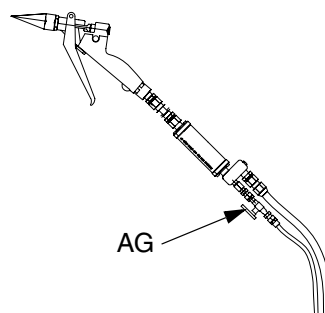
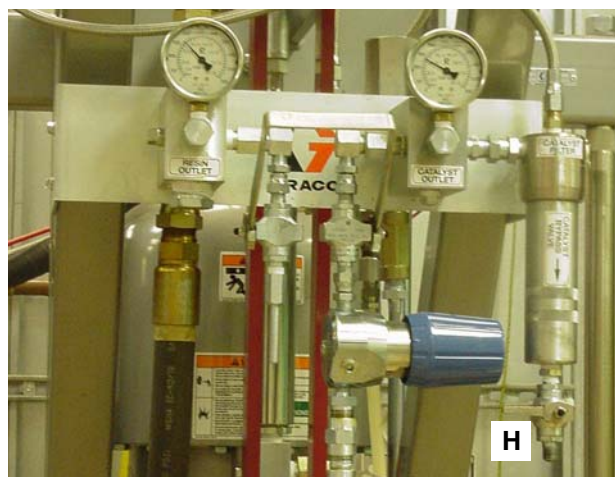

FIG. 14
FIG. 15
6. Adjust the pump air regulator (S) to approximately 10-15 psi (69-103 kPa, 0.7-1 bar).
8. Open the catalyst bypass valve (H), FIG. 15.
Do not operate the pump with both the catalyst shutoff valve (AG, FIG. 14) and the catalyst bypass valve (H, FIG. 15) in the closed position. Doing so will cause excessive pressure to develop in catalyst lines and the safety relief valve to open. Make sure the catalyst relief valve is operational and free from blockage at all times. See valve manual 308547.